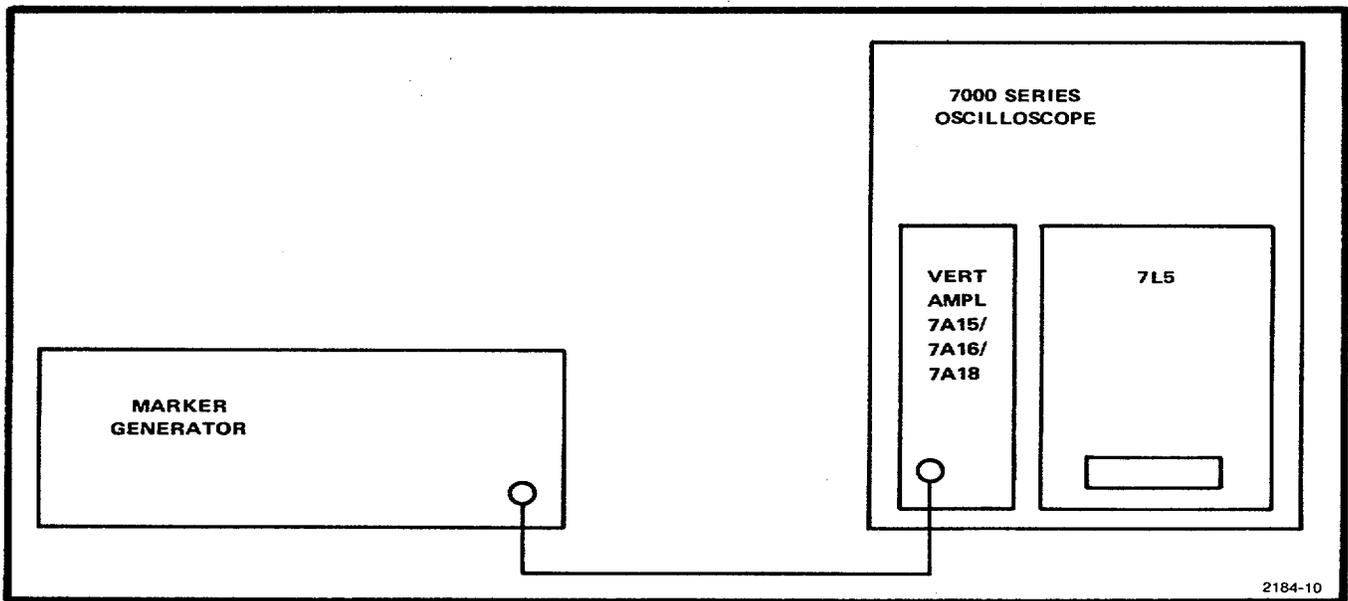

Fig. 3-4. Sweep rate test equipment setup.
a. Connect test setup per Fig. 3-4. Set the 7L5 front panel controls as follows: